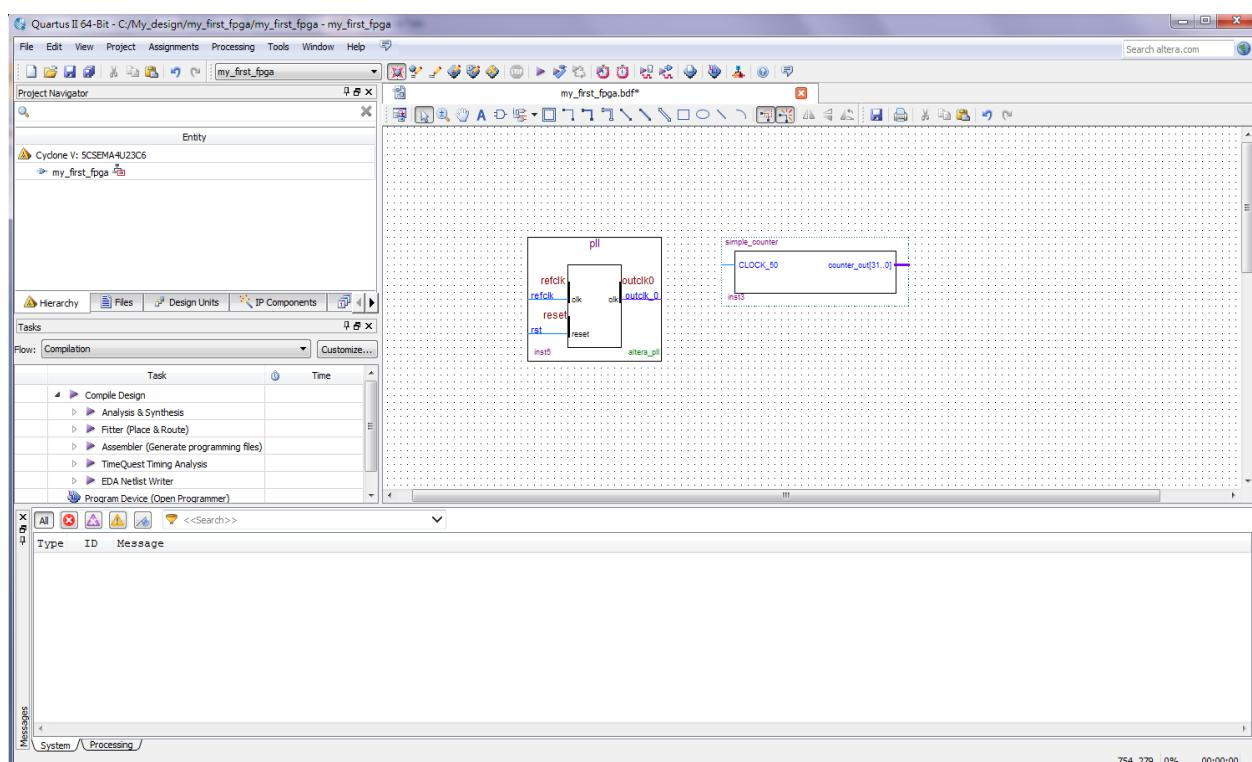

Figure 3-15 Place the PLL Symbol
- Click OK and place the pll symbol onto the BDF to the left of the simple_counter symbol. You can move the symbols around by holding down the left mouse button, helping you ensure that they line up properly. See **Figure 3-15**.